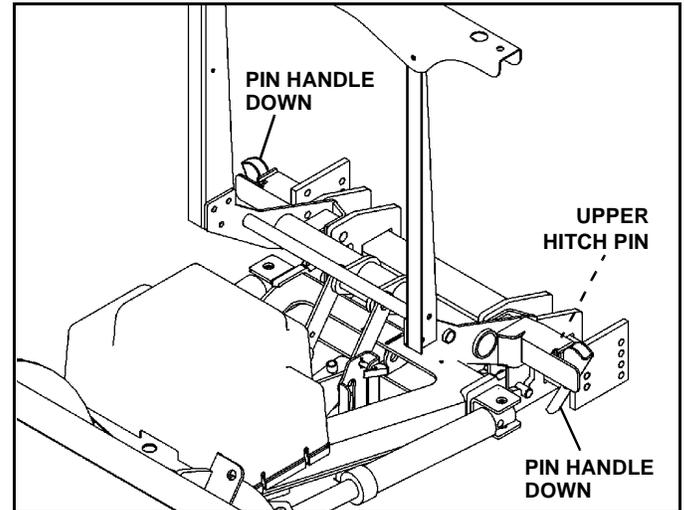

Figure 1-20
4. Put plow into float position by turning down pressure off. Rotate pin handles down to lock pins in place. (See Figure 1-20)
*NOTE: Upper hitch pins are fully engaged when pin handle is tight against pin bracket and you cannot see the upper hitch pin between the pin bracket and pin handle. (See Figure 1-20)*